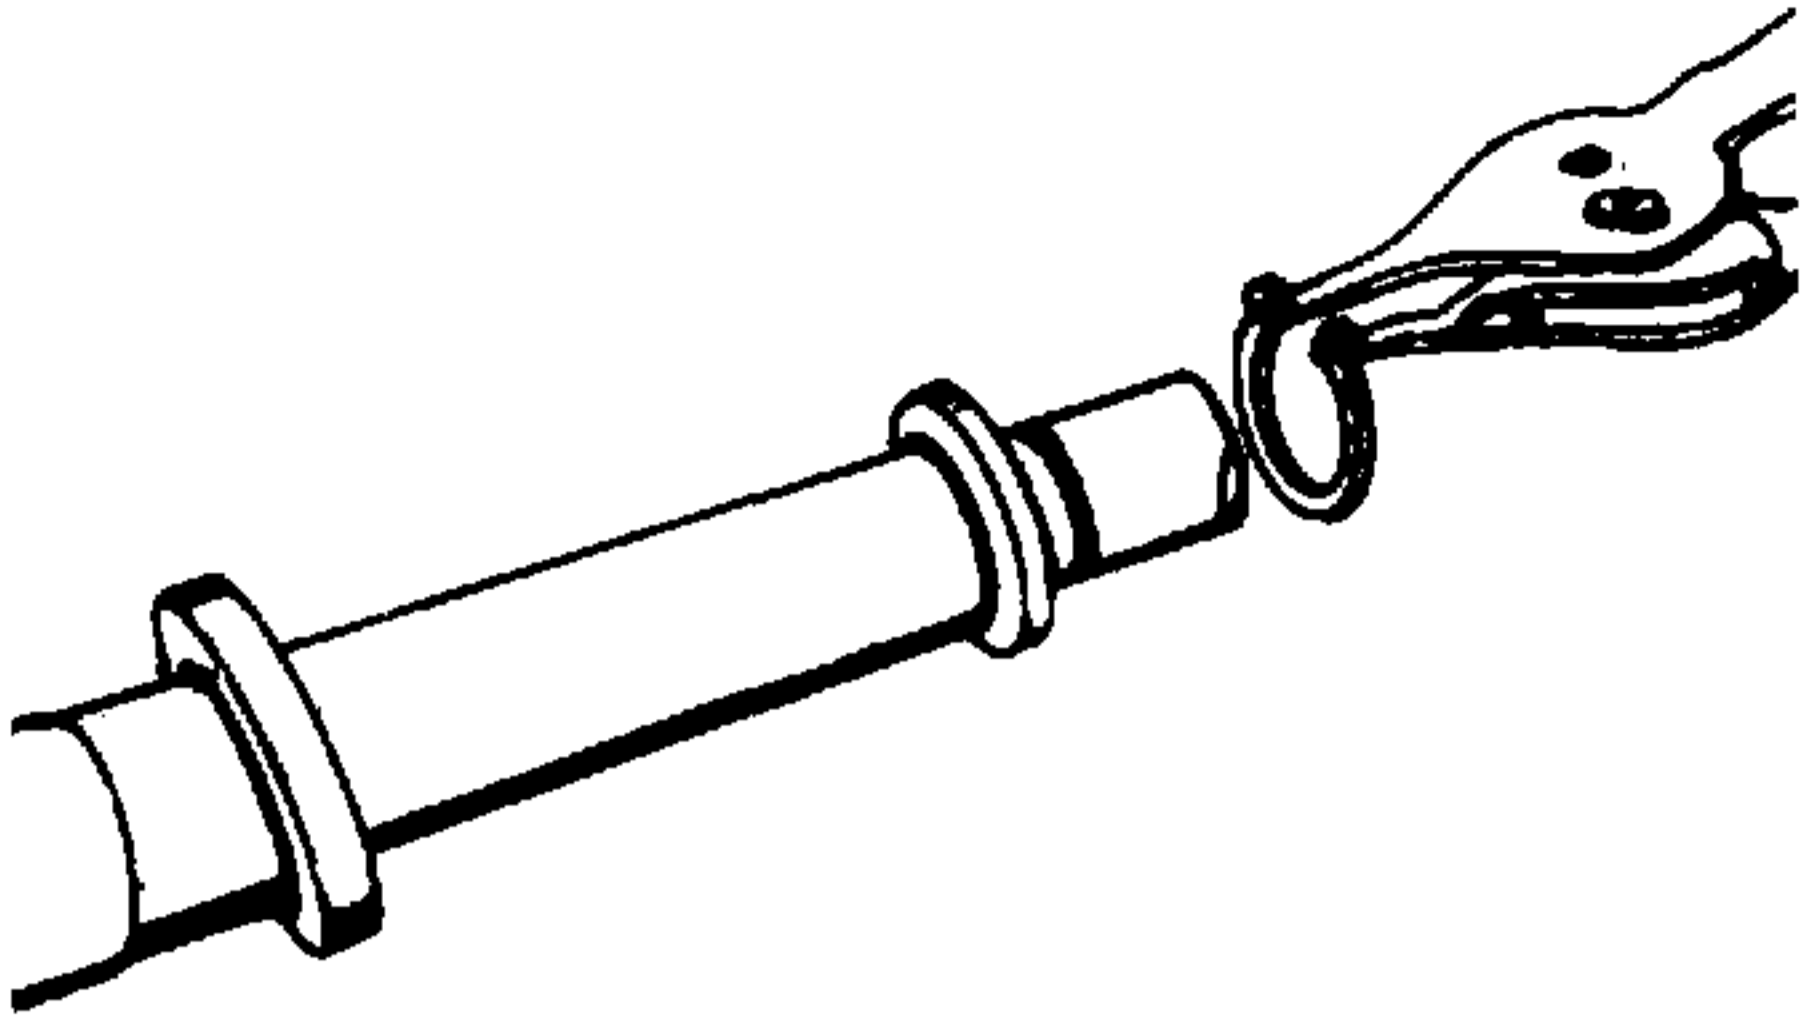

Figure 4-38. Removing Retaining Ring.
44. Inspect the input shaft assembly (31) and subassembly components as assembled. Inspect input shaft for worn or damaged serrations, wheel nut threads, bearing diameter and flats on the lower end. Inspect the other components of the subassembly for wear damage. If this subassembly passes inspection, set it aside and go to step 48. If it does not pass inspection, continue with step 45.
45. Using appropriate external retaining ring pliers, remove retaining ring (32) from the input shaft assembly (31). See Figure 4-38. Discard if deformed or broken.